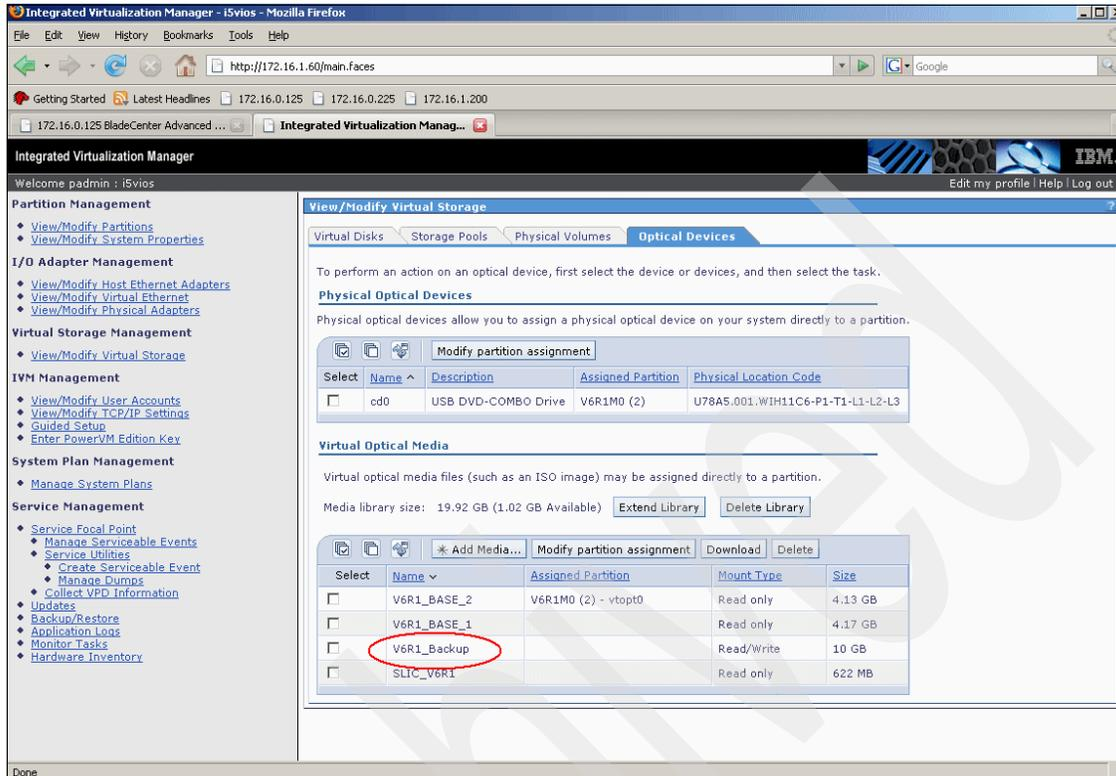

Figure 5-54 IVM Virtual optical device created
- The new virtual optical device should be listed in the Virtual Optical device list, as shown in Figure 5-54 on page 275.